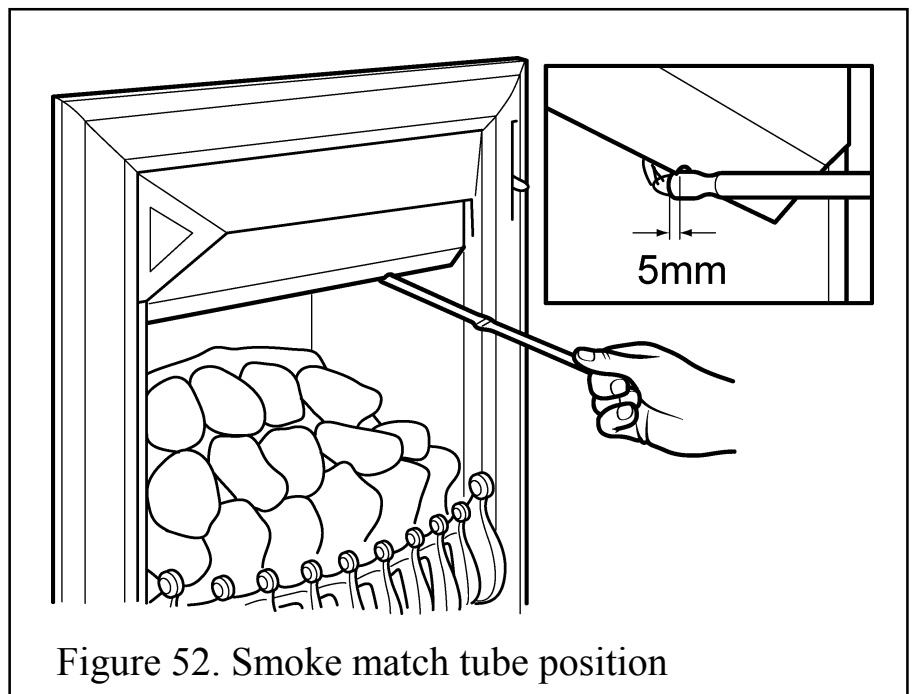

Figure 52. Smoke match tube position
4. The smoke match should be placed horizontally into the convection box at the right hand side. There is a notch in the black cross member. Insert the tube so that the neck of its flared end is 5mm passed and in contact the cross member - See figure 52.